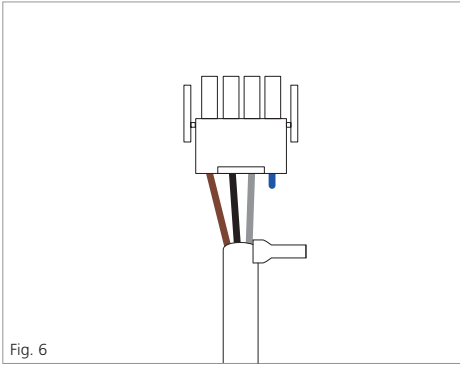

Fig. 6
1. Cut and terminate the blue wire of the 1st slave harness where it enters the master unit. This will ensure slave units will only run when the master unit operates (see Fig. 6)